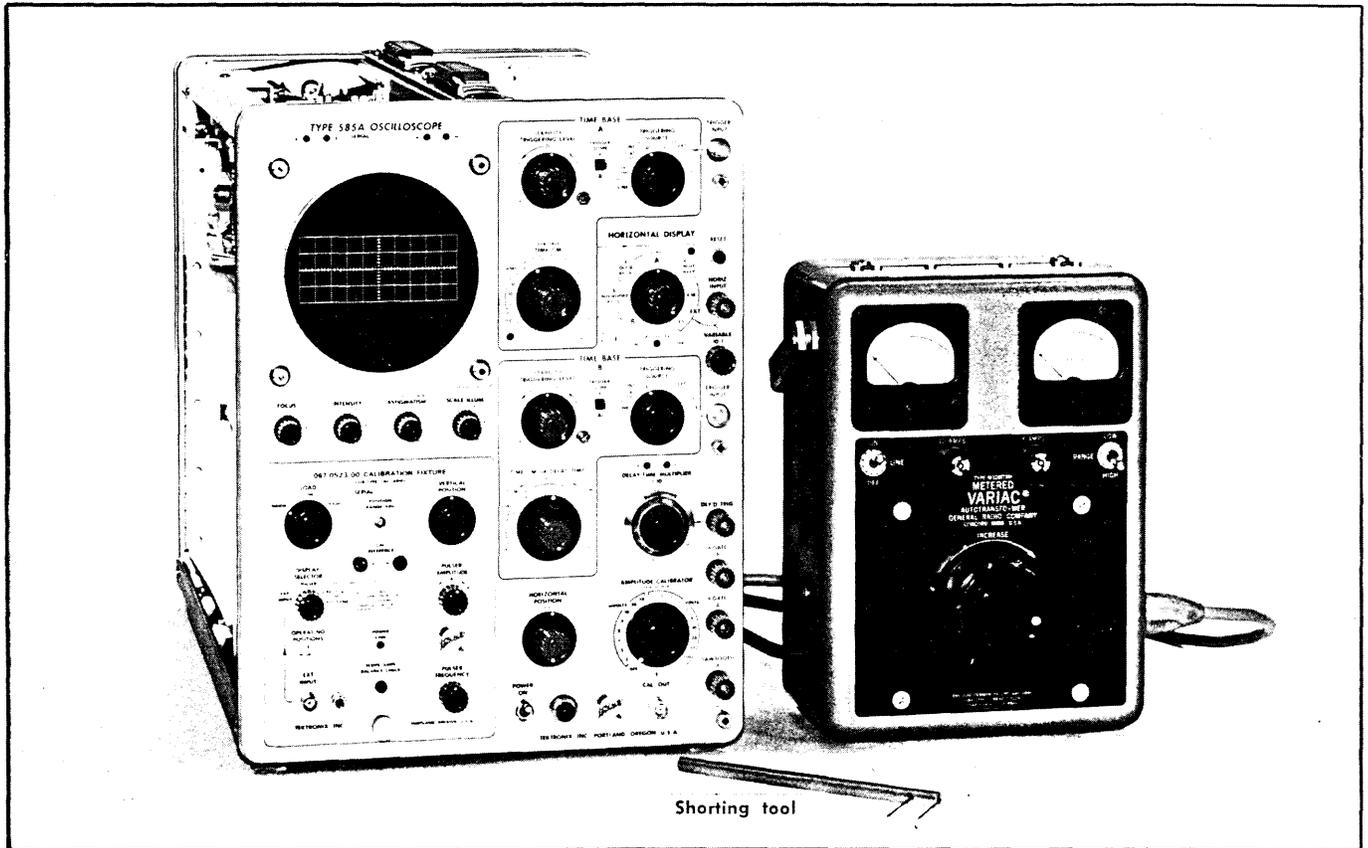

Fig. 6-10. Equipment setup for steps 12 through 17.
- a. Equipment setup is given in Fig. 6-10.
- c. Short the front vertical deflection plates together with the shorting tool, Part No. 003-0002-00 (Fig. 6-10). Note the position of the trace. This is the electrical center of the CRT.
a. Equipment setup is shown in Fig. 6-10.